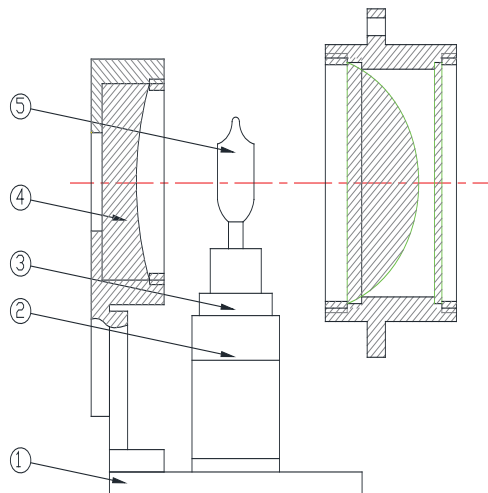

Fig 7 Illumination Group
5.1.1 Restoration adjustment (Fig 7)
5.1.2 Method for changing a light bulb (Fig 7)